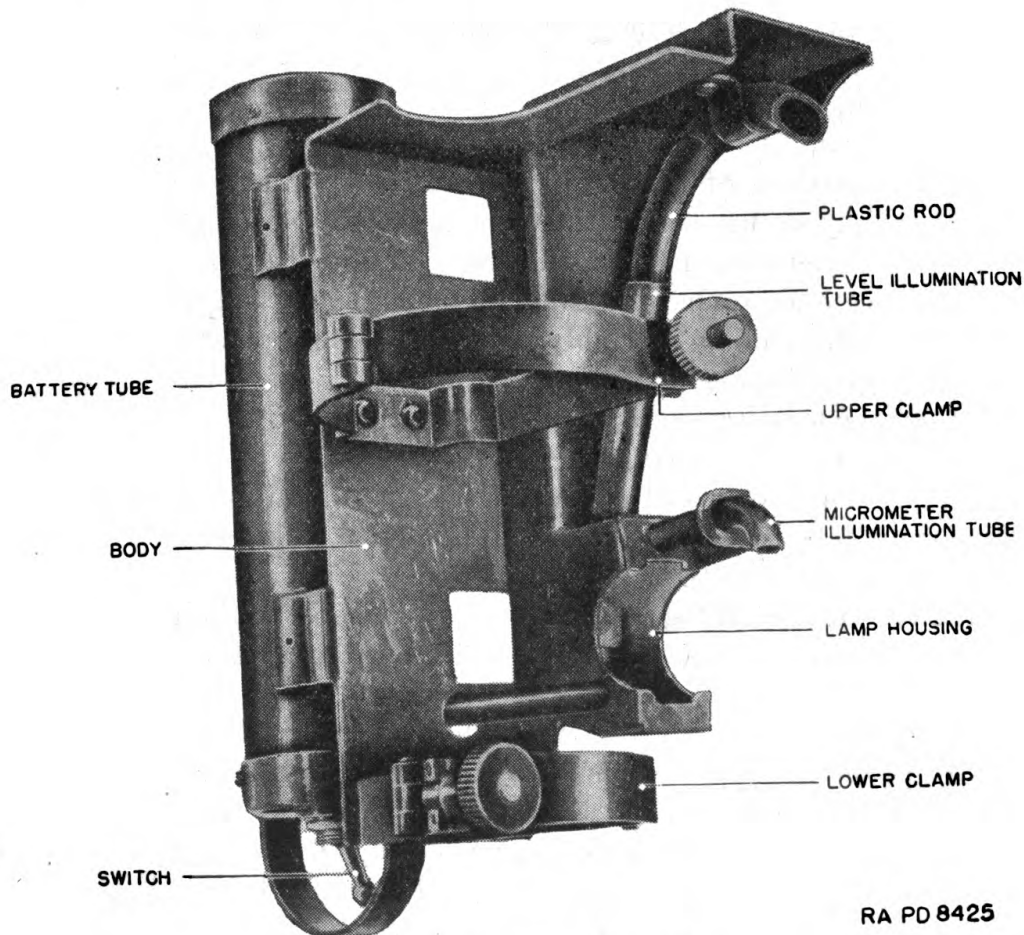

FIGURE 10.—Instrument light M5.
**6. Light, instrument, M5.**—This light (fig. 10) consists essentially of the body assembly and battery tube.